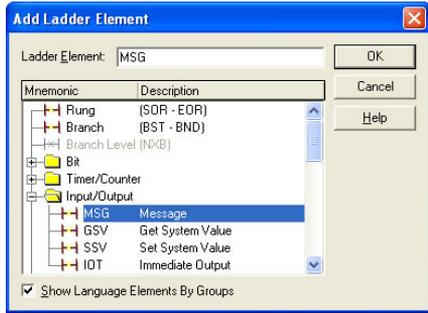

Figure 100: Adding a MSG Instruction
- d) Select the "MSG" instruction in the Input/Output folder. Refer to Figure 100.